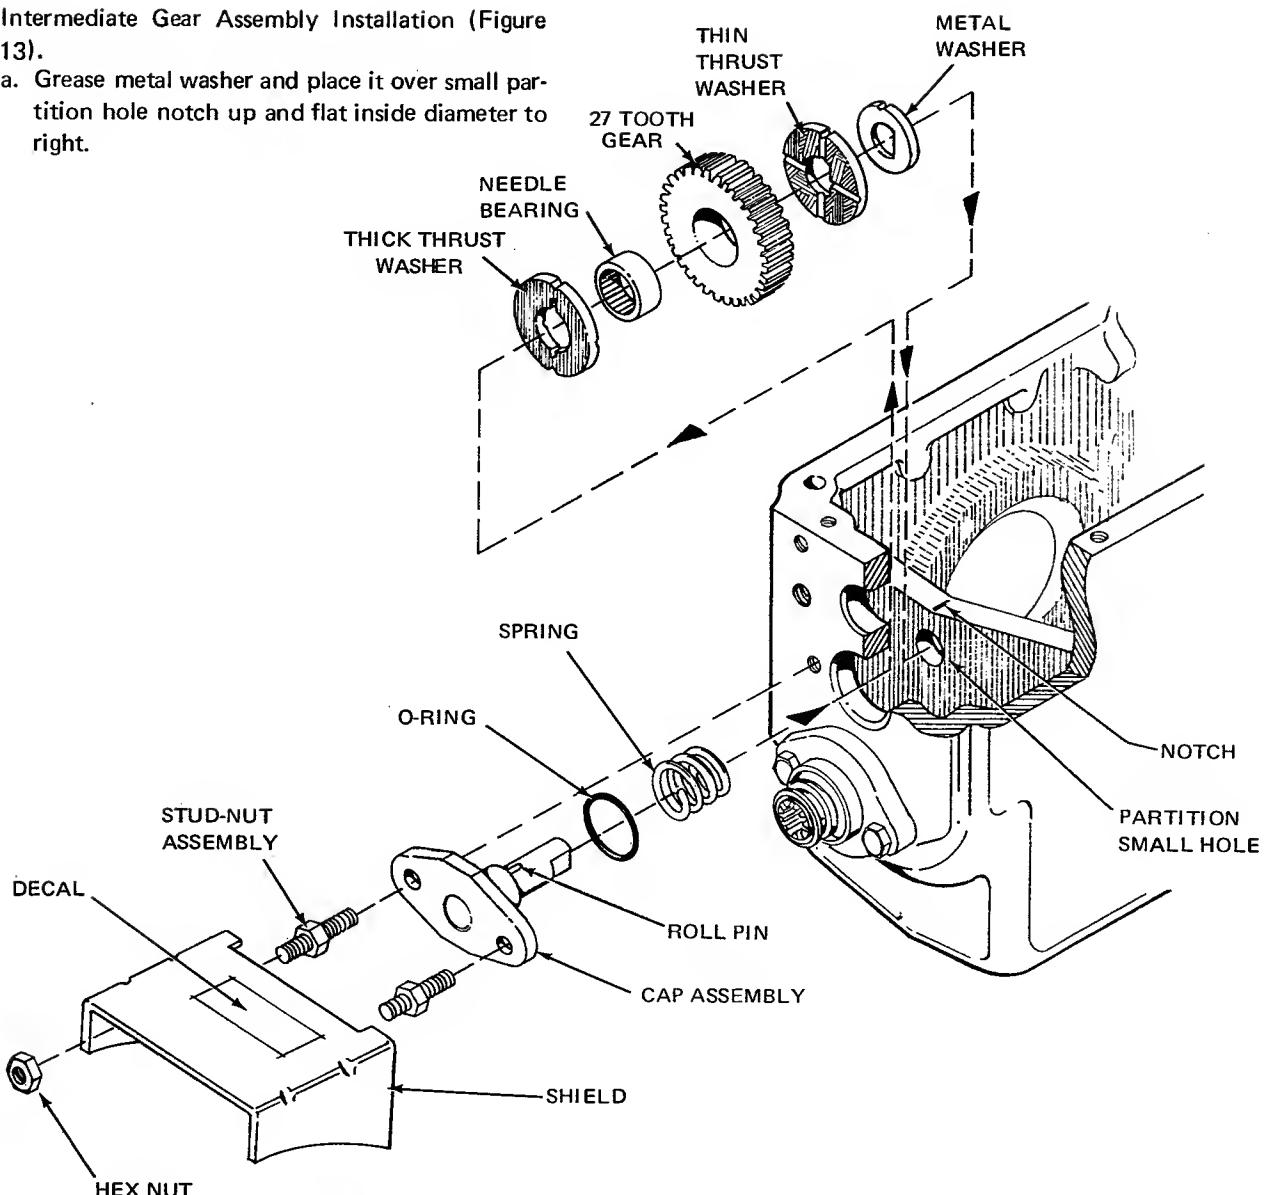

Figure 13. Intermediate Gear Installation
5. Intermediate Gear Assembly Installation (Figure 13).
- Assemble thick and thin thrust washers and gear assembly as shown in Figure 13 between partition and transmission case wall, aligning washer and gear holes. Be sure thrust washers have notches up, grooves facing gear assembly and that thick thrust washer is to the outside next to spring.